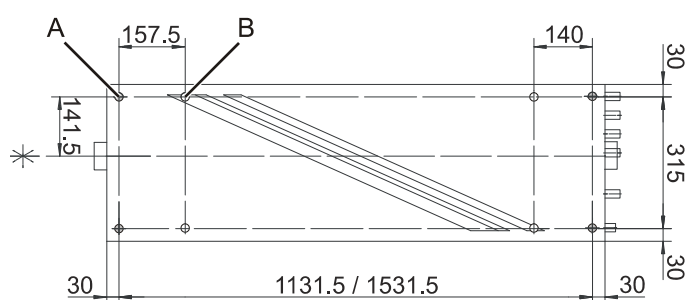

Figure 13: Position of anchoring device location holes
Figure 13 indicates the positions of the holes (A) in relation to the beam exit position, sides of the housing and laser device feet (B). For further information about the location and configuration of the feet, please refer to Section 4.6.2.